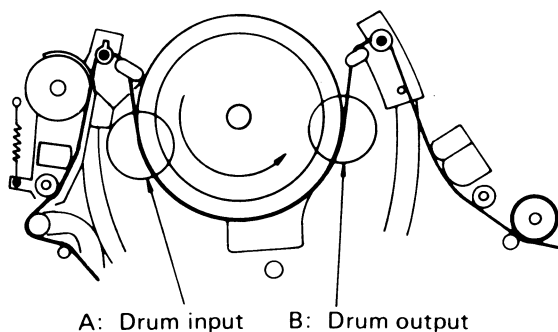
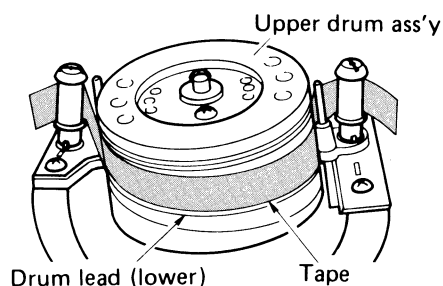

Fig. 8 Tape transport check
Fig. 9 Drum lead check - 1
2. During PLAY mode, observe tape at the input and output portions (A and B in Fig. 8) of the head drum lead. Confirm that the tape slips neither upward nor downward with respect to the lead as shown in Fig. 9.